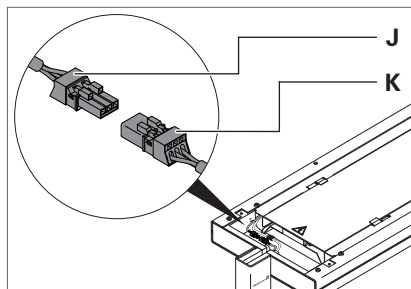

Fig. 18: Connecting the light head, Part 2
- Connect the socket **J** to the plug **K** at the light head, see Fig. 18.